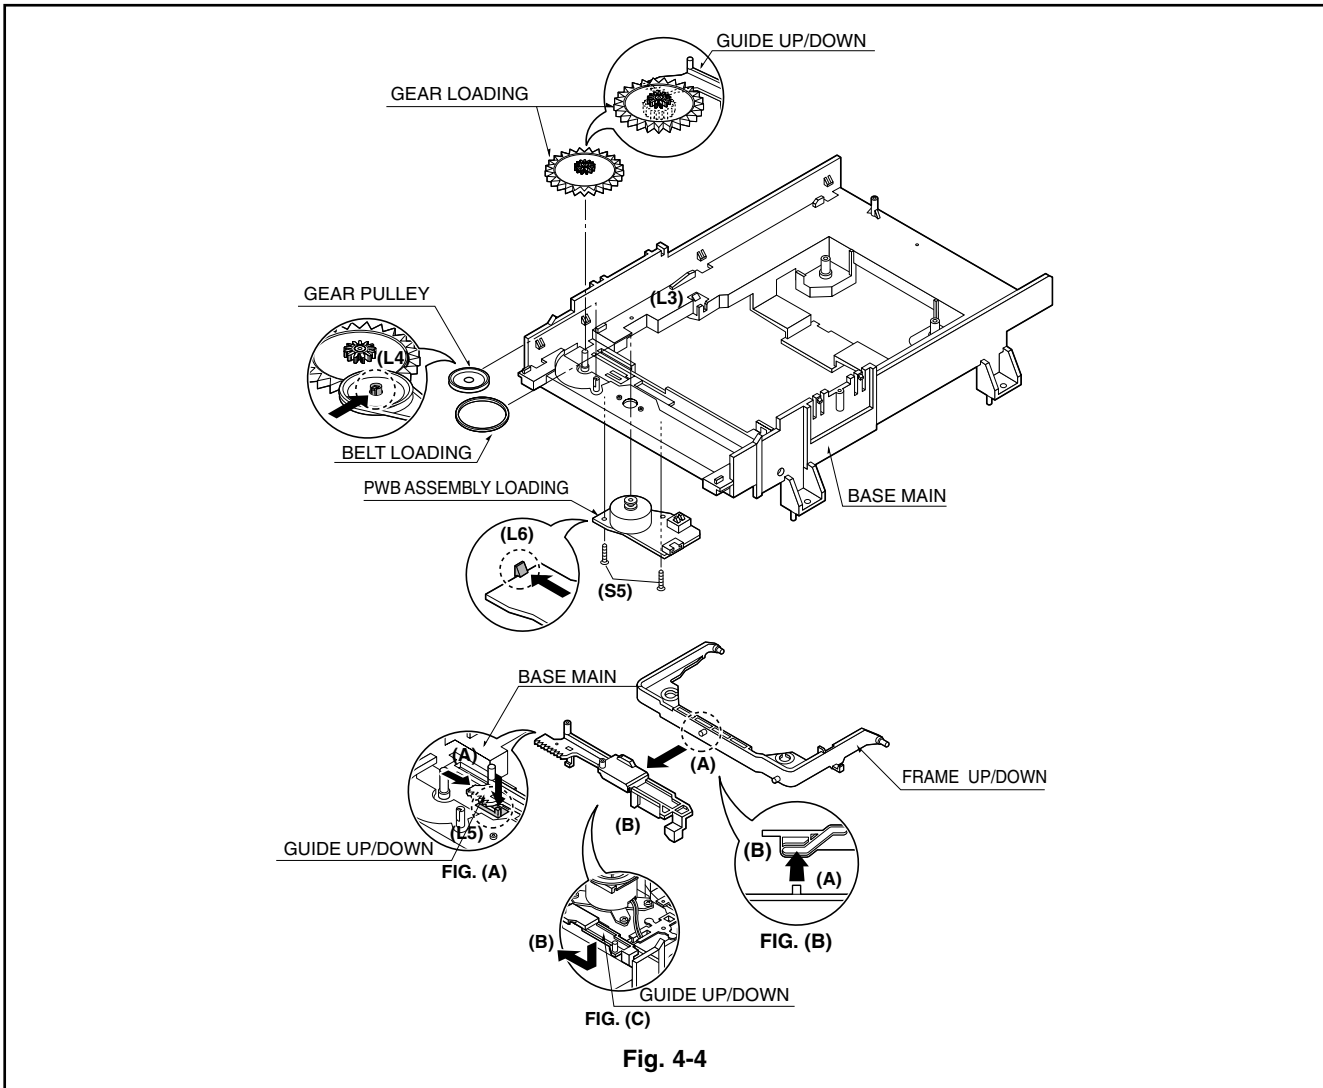

Fig. 4-4
- When reassembling move the Guide Up/Down in direction of arrow(B) until it is positioned as Fig.(C).
- When reassembling insert (A) portion of the Frame Assembly Up/Down in the (B) portion of the Guide Up/Down as Fig.(B)
6. Belt Loading(Fig. 4-4)
7. Gear pulley (Fig. 4-4)
8. Gear Loading (Fig. 4-4)
9. Guide Up/Down (Fig. 4-4)
11. Base Main(Fig. 4-4)